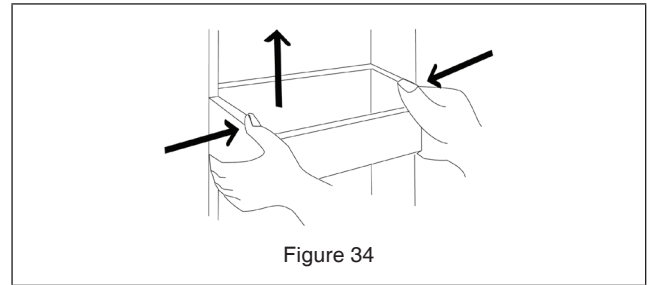

Figure 34
- Use both hands to hold and squeeze the bin, push it upward then remove. See Figure 34.